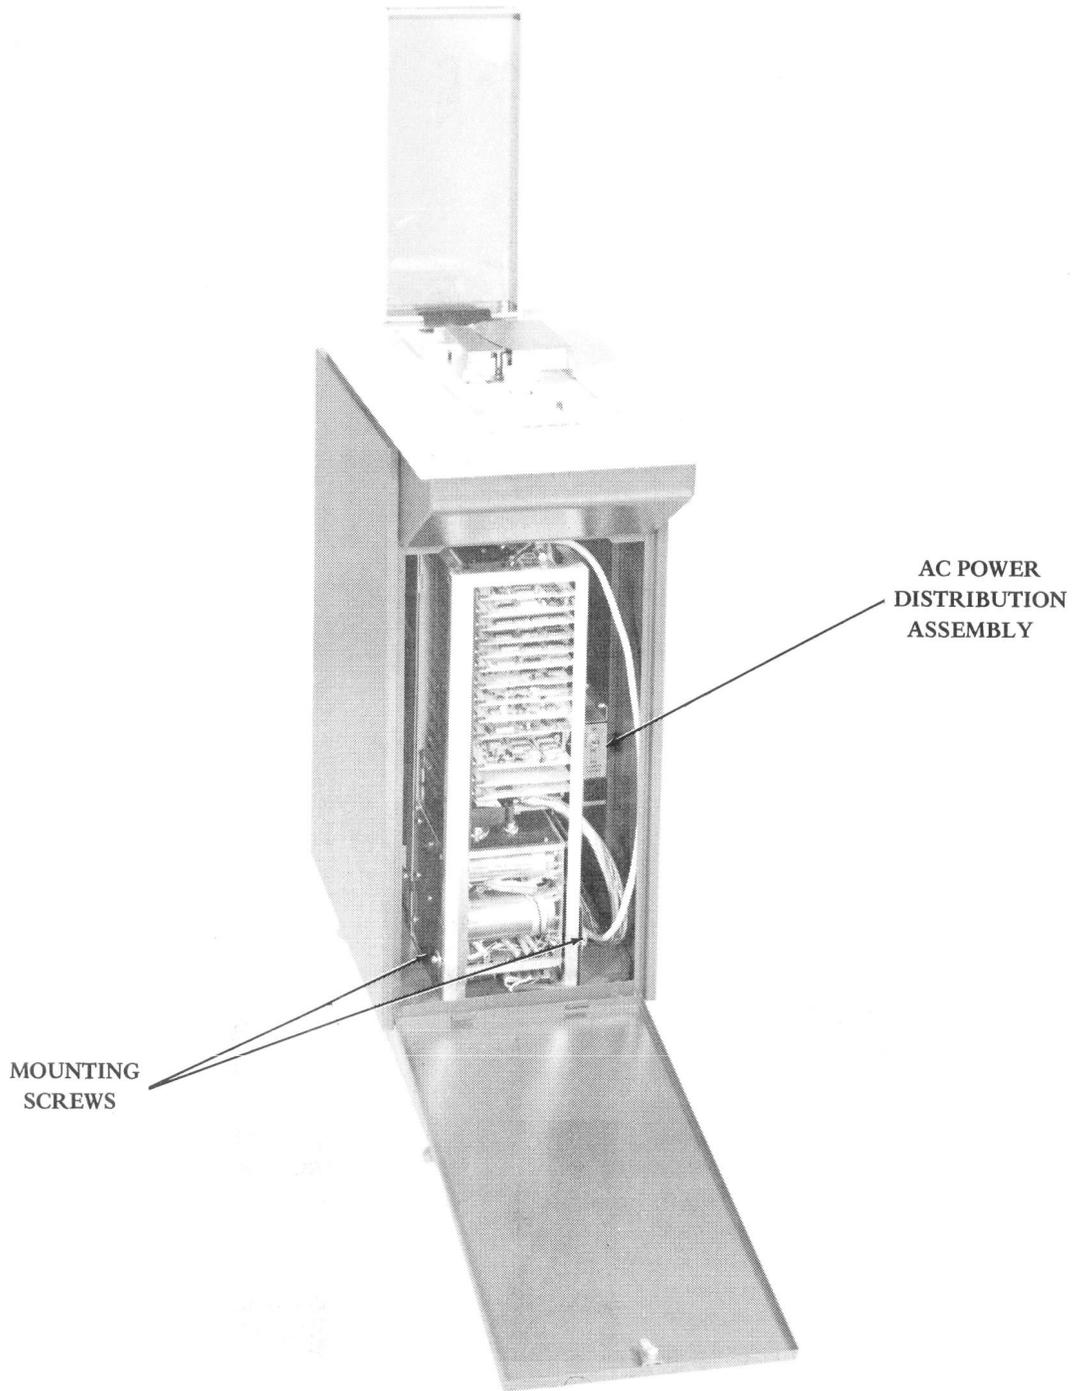

Figure 13 - Magnetic Tape Set With Electronics Module Exposed
- (1) Turn retaining screw on cabinet front panel until it releases from cabinet, and open front panel (Figure 13). Lift front panel away from cabinet.
- (2) Loosen the two TP153442 screws that hold the bottom of the module to the side brackets.